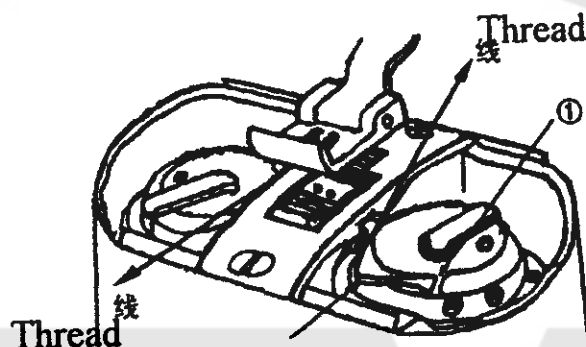
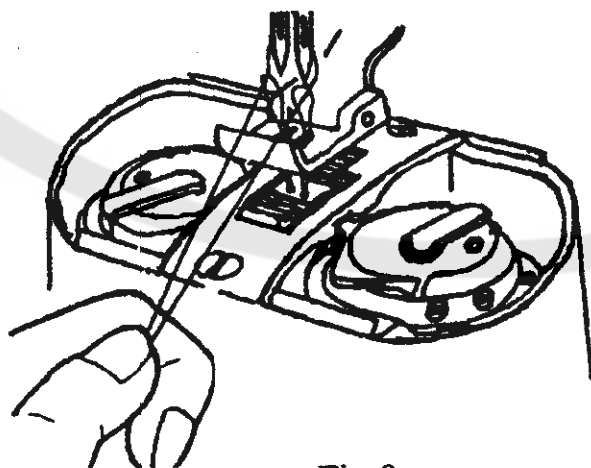

Fig. 7
Fig.8
12、 How to lead the lower thread (Fig.7、 Fig.8):
(1) As shown in fig.7, from the slit (1) pass the thread underneath the hook body, and pull it to the right diagonally, and thread will pass through the tension spring (single needle); From the slit (1) pass the thread underneath the hook body, and pull the left thread to the left and the right thread to the right diagonally, and thread will pass through the tension spring (double needle).
(2) As shown in fig.8, holding the end of upper thread by left hand, turn the balance wheel slowly one around by right hand, the upper thread will hook out pulling the lower thread simultaneously through the hole of needle plate, and leave the lower thread to the other side of the needle plate. Close the slide plate.